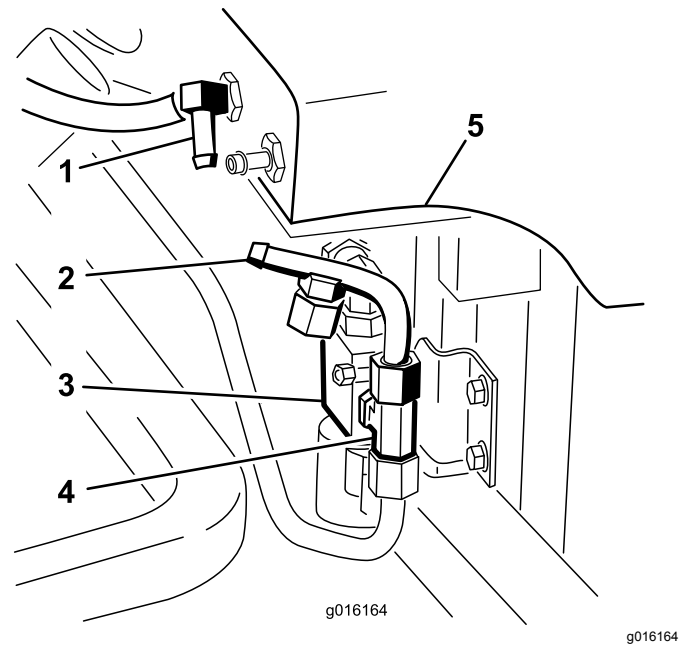

Figure 25
3. Install hydraulic line number 4 to the tee fitting assembled to the side of the valve (Figure 25).